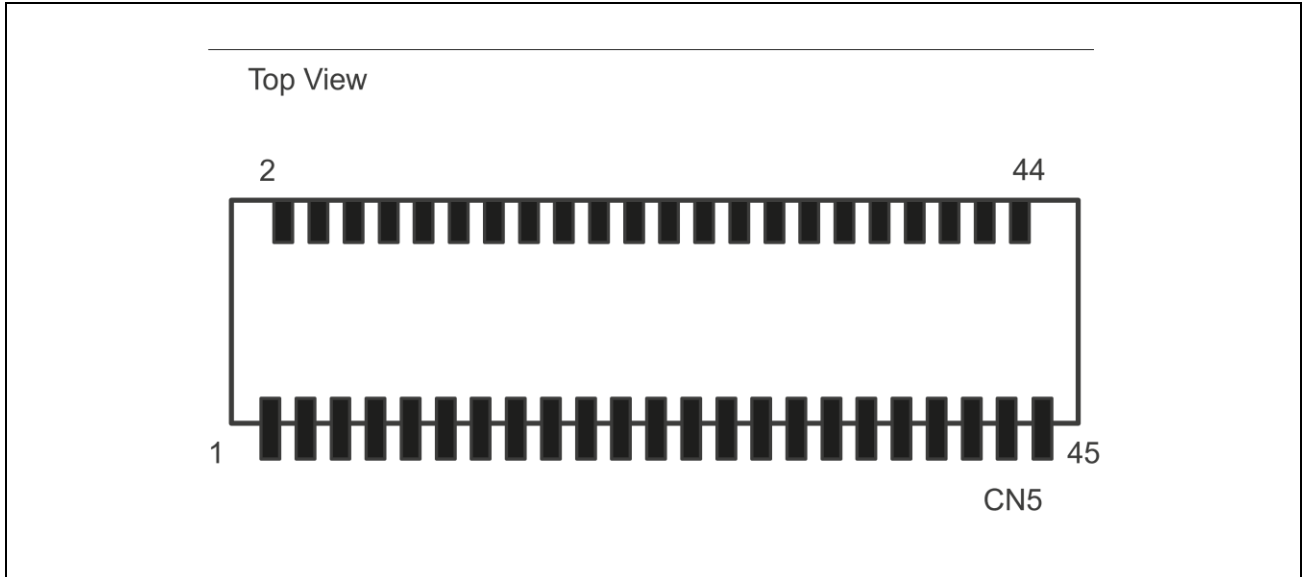

Figure 3.6 FFC/FPC Connector (CN5) Pin Layout Diagram
**Figure 3.6** illustrates the layout of the connector pins. **Table 3.4** shows the assignment of the connector pins.